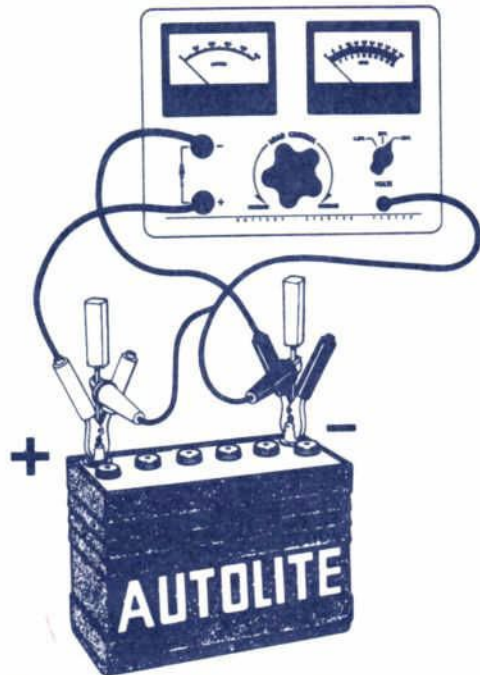

Figure 3—Capacity Test Connections
1. Connect the appropriate leads to the battery posts. See Figure 3. Be sure the voltmeter clips are connected **DIRECTLY** to the battery posts, and not to the heavy tester clips.